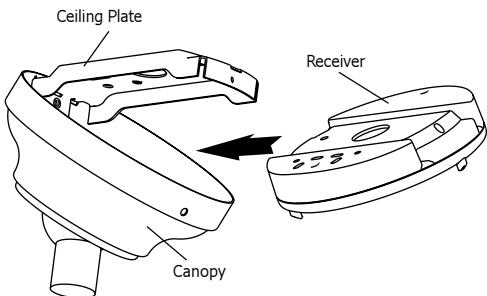

Figure 3 - Installing Receiver
5. Install receiver as shown in Figure 3. Line up the slots on the receiver with the ceiling plate. Be sure to push wire connections from the ceiling back up through the hole in the ceiling plate. Wires attaching from the ceiling plate to the fan should be placed inside the canopy under the